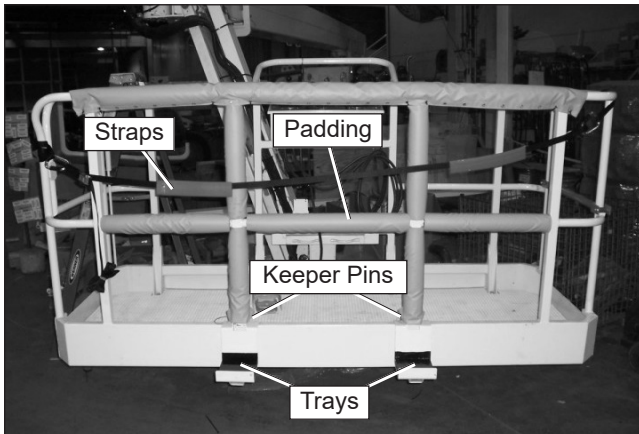

Figure 7.15 – Platform Glazier Package
- Inspect the glazier trays (refer to Figure 7.15) and keeper pins to make sure they are in good condition and are not bent or distorted. The straps and padding must be in good condition and not worn, cut or frayed.